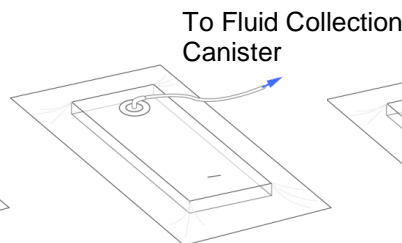

Fig. 2
12. Peel the backing from one of the SpeedConnect™ flanges and place it above one of the holes made in Step 11. Using the tips of the fingers, press around the top of the SpeedConnect™ to ensure a good seal to the dressing (see Fig. 2).